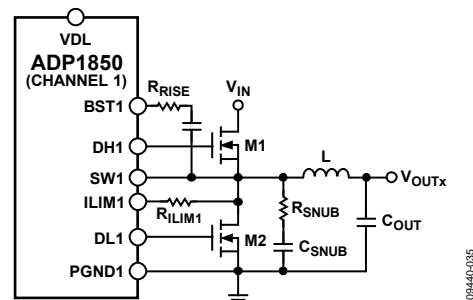

Figure 35. Application Circuit with a Snubber
In any high speed step-down regulator, high frequency noise (generally in the range of 50 MHz to 100 MHz) and voltage overshoot are always present at the gate, the switch node (SW), and the drains of the external MOSFETs. The high frequency noise and overshoot are caused by the parasitic capacitance, C_{GD} , of the external MOSFET and the parasitic inductance of the gate trace and the packages of the MOSFETs. When the high current is switched, electromagnetic interference (EMI) is generated, which can affect the operation of the surrounding circuits. To reduce voltage ringing and noise, it is recommended to add an RC snubber between SWx and PGNDx for high current applications, as illustrated in Figure 35.
In most applications, a component size 0805 for R_{SNUB} is sufficient. However, the use of an RC snubber reduces the overall efficiency, generally by an amount in the range of 0.1% to 0.5%. The RC snubber does not reduce the voltage overshoot. A resistor, shown as R_{RISE} in Figure 35, at the BSTx pin helps to reduce overshoot and is generally between $2\ \Omega$ and $4\ \Omega$. Adding a resistor in series, typically between $2\ \Omega$ and $4\ \Omega$, with the gate driver also helps to reduce overshoot. If a gate resistor is added, then R_{RISE} is not needed.